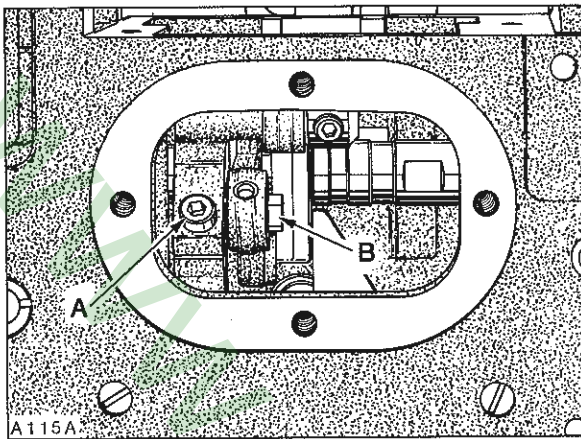

Fig. 17
Loosen Allen screw (A, Fig. 17) and turn eccentric (B) while rotating handwheel in operating direction to obtain equal clearance in throat plate, front and rear. Tighten screw (A) securely.